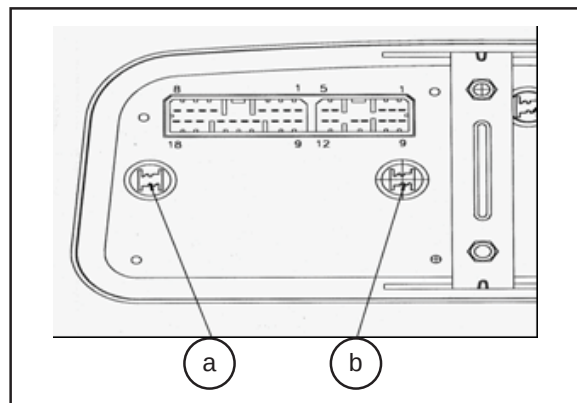

Fig.139
3. Using a small plier first turn the bulb holder left and then pull the failed bulb out (Fig. 139) .